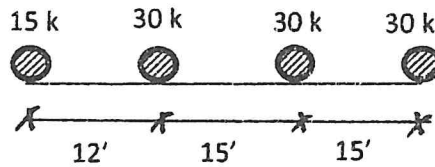

Fig. 13
- (b) Calculate the absolute maximum moment at midspan of a simply supported beam of 80 ft span due to the series of wheel loads shown in Fig. 13. (16 2/3)